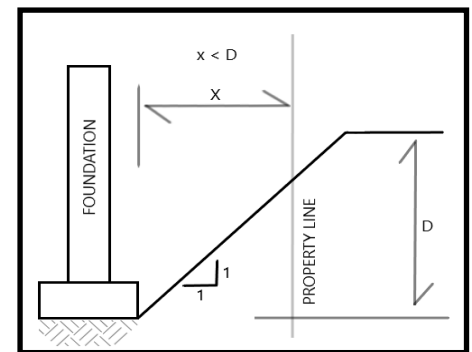

Figure 6 -
- Figure 6 is only acceptable with a temporary construction easement.